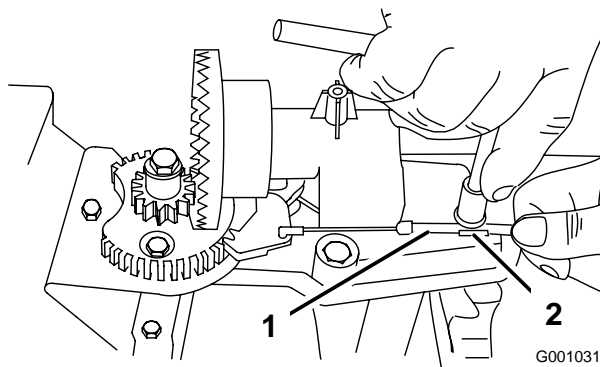
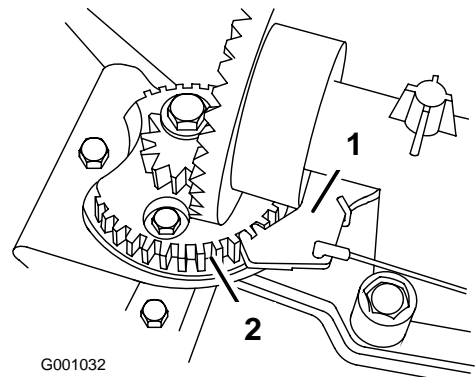

Figure 55
Figure 56
- Loosen the bolt on the cable clamp (Figure 55).
- Grasp the cable conduit and move it toward the front of the machine until the discharge chute latch fully engages the gear teeth (Figure 55 and Figure 56).
Note: The latch is spring loaded and will naturally move into the teeth of the gear (Figure 56).